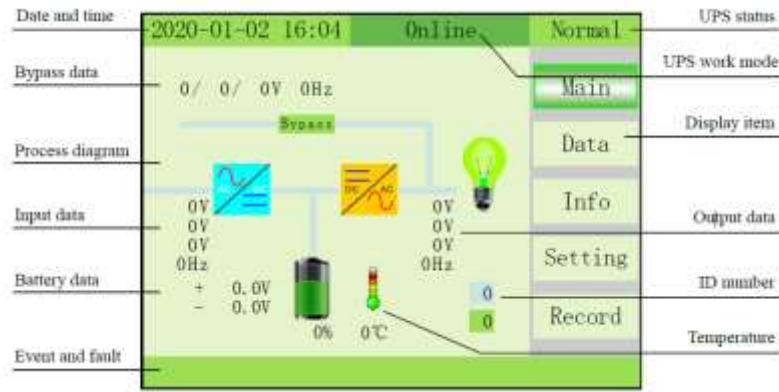

Fig. 4-2 Main interface
- 1) MAIN: The main interface below comes out when the power is connected or the system is cold start (Fig. 4-2). Shows UPS status graph.